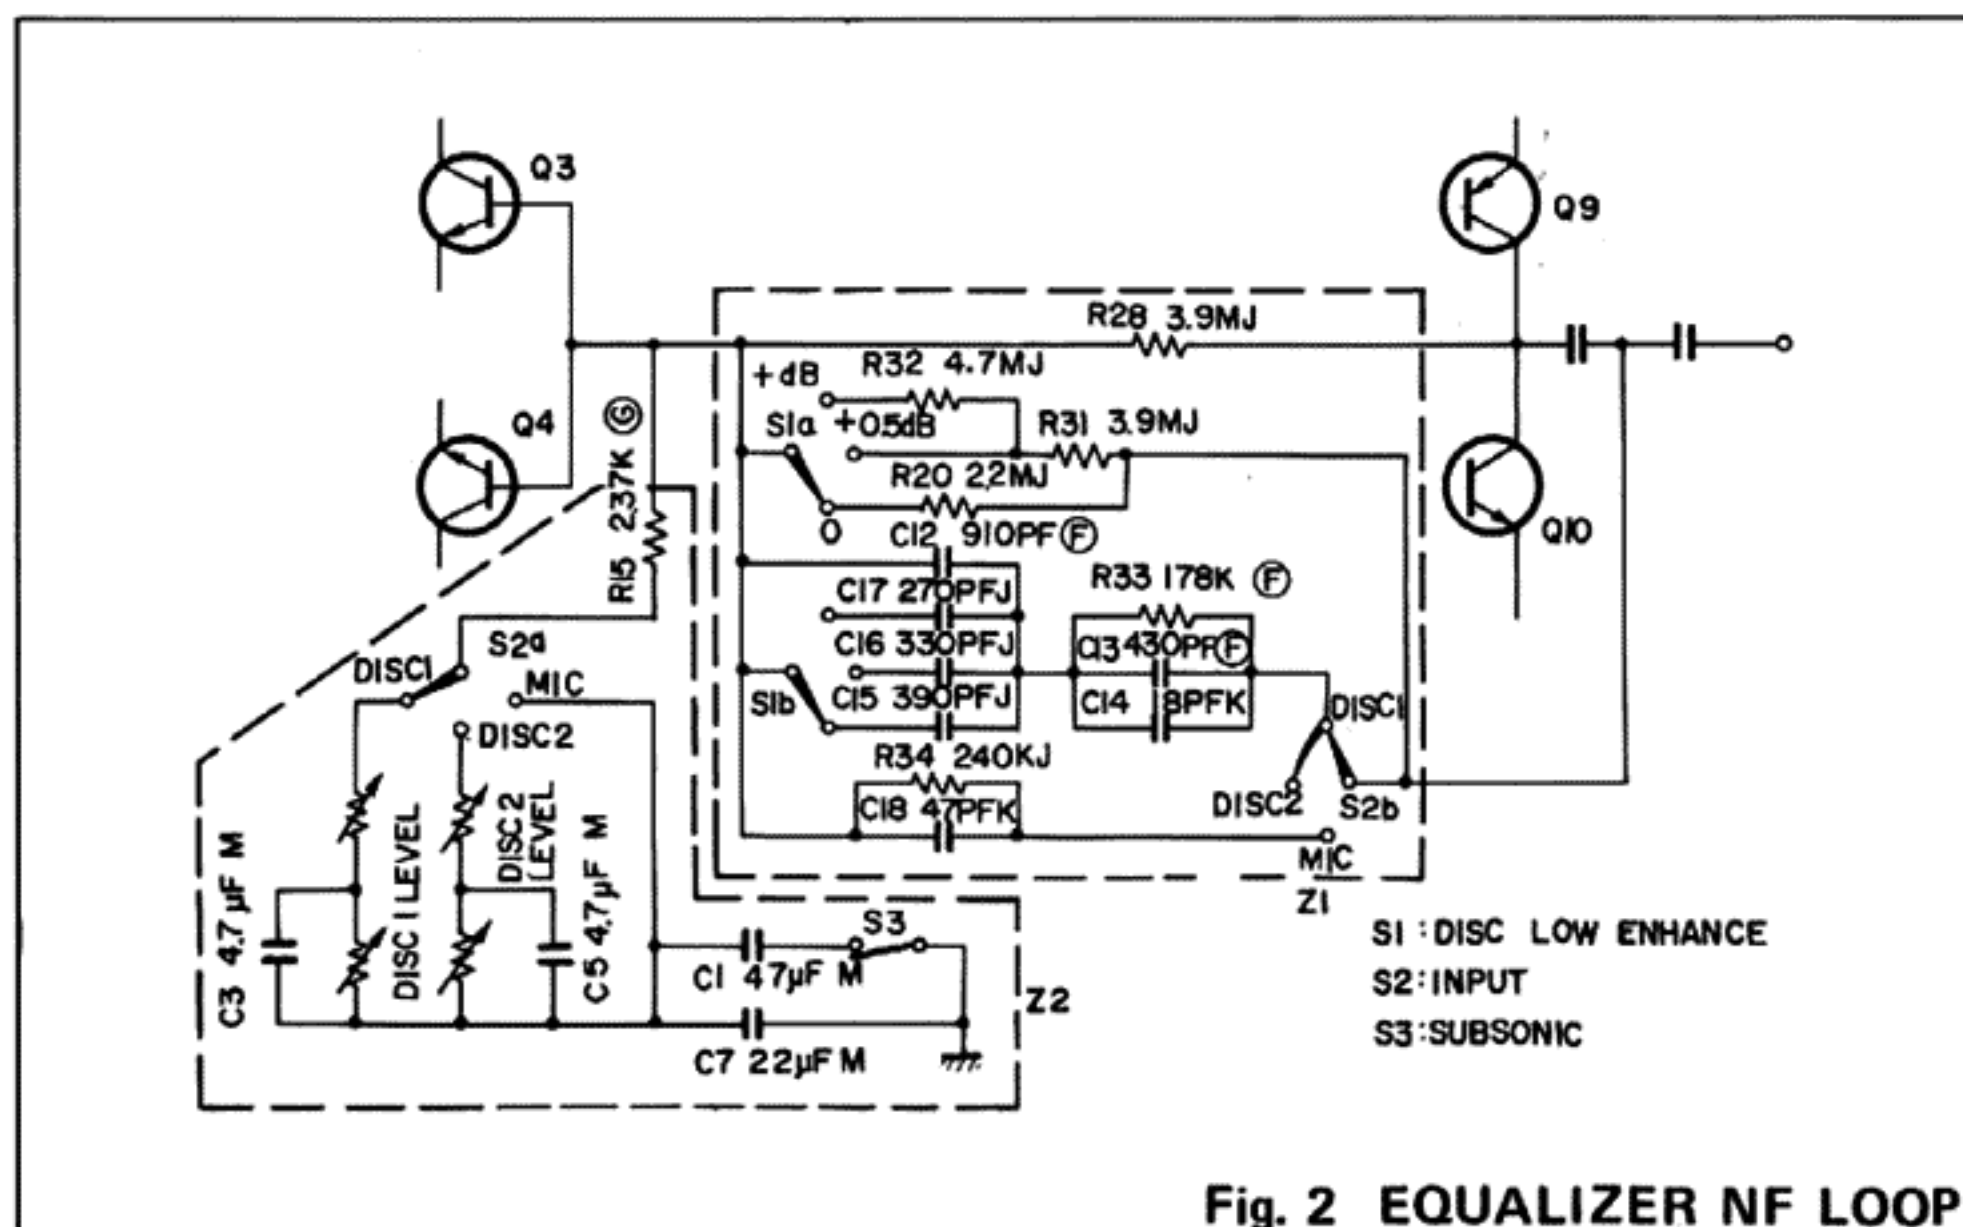

Fig. 2 EQUALIZER NF LOOP
- d. The gain (40dB at 1kHz) and frequency response characteristics of this circuit are determined by the Negative Feedback (NF) Loop (Fig. 2). The tolerances of all main resistors and capacitors therein have been kept rigidly within $\pm 1\%$, permitting close adherence to the RIAA standard equalization curve within ± 0.2 dB from 20Hz to 20,000Hz.